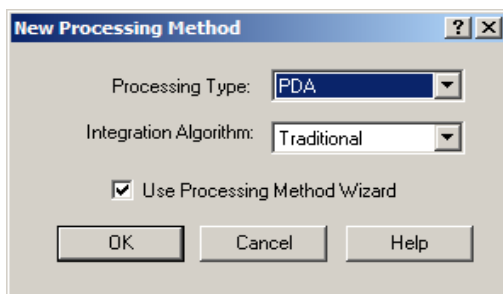

Figure 3-5 New Processing Method Dialog Box
2. Click **Create a New Processing Method** and click **OK** to open the New Processing Method dialog box (Figure 3-5).